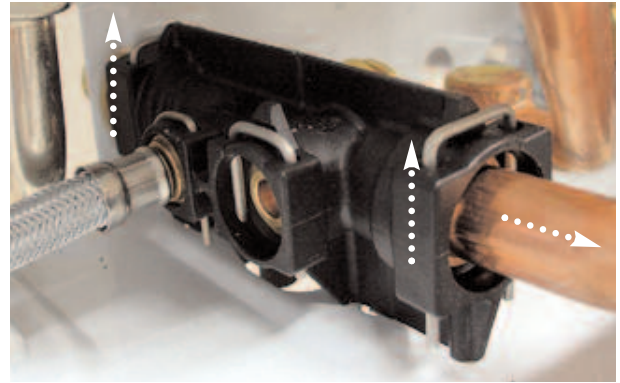

Fig. 18.82
2. Remove the two clips and remove the pipe (see *Fig. 18.82*);